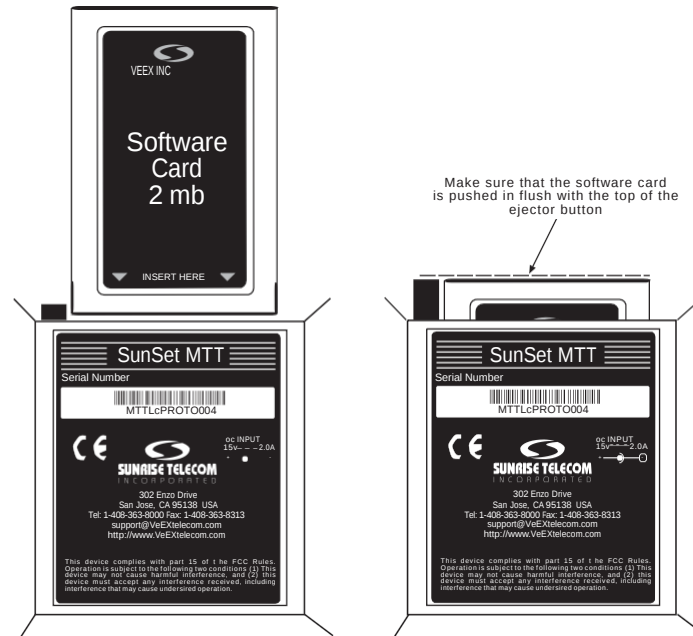

Figure 6 Software Card Installation
The test set's software can be upgraded via the PCMCIA card. The software card is inserted into the inner card slot of the SunSet MTT. Refer to Figure 6.
2. Flip down the hinged protective top cover, which exposes the view shown in Figure 6.
4. Insert the new cartridge and push it down till seated as shown in Figure 6.